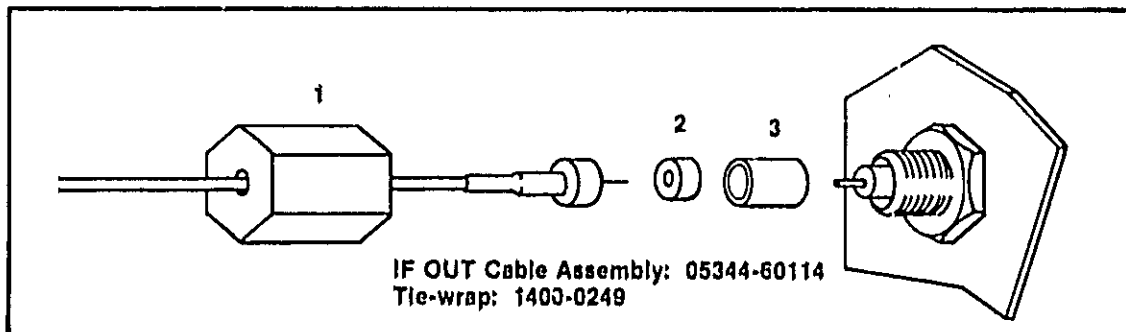

Figure 2-4. IF OUT Modification
This change is not required on counters received as part of a 5344S system or on counters with serial numbers higher than those listed in paragraph 2-24. Refer to *Figure 2-4* for IF OUT modification part numbers for required parts.
10. Slide the brass barrel (1), nylon spacer (2), and a brass sleeve (3), onto the IF OUT shielded cable as shown in *Figure 2-4*.